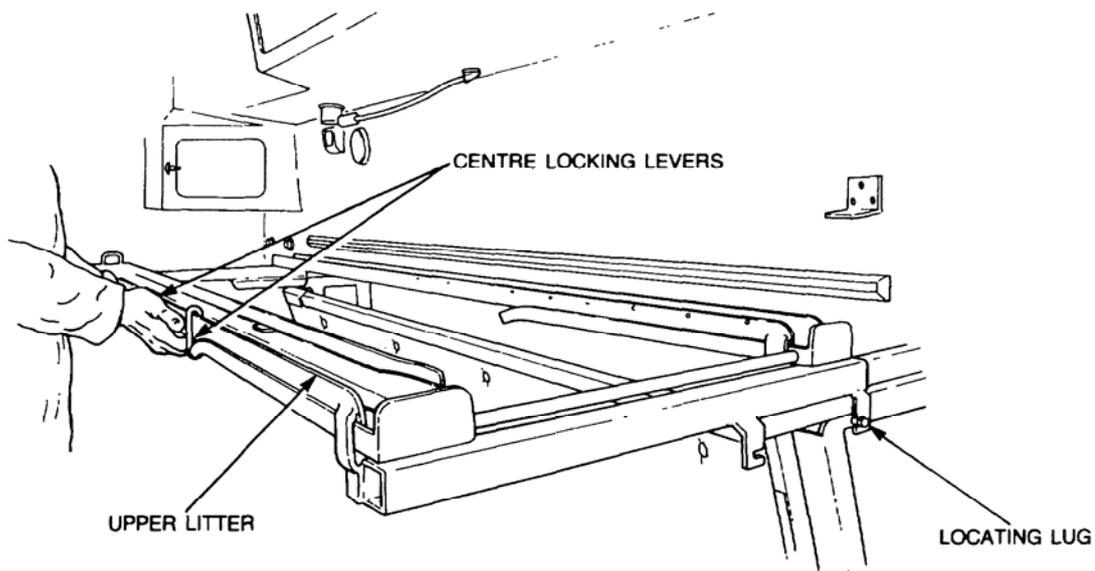

Figure 42 Upper Litter Removal
- b. Operate the centre locking levers (refer Figure 42) to remove the litter rail assembly off the frame.
- i. Operate the two centre locking levers (refer Figure 42) then push the litter towards the module wall.